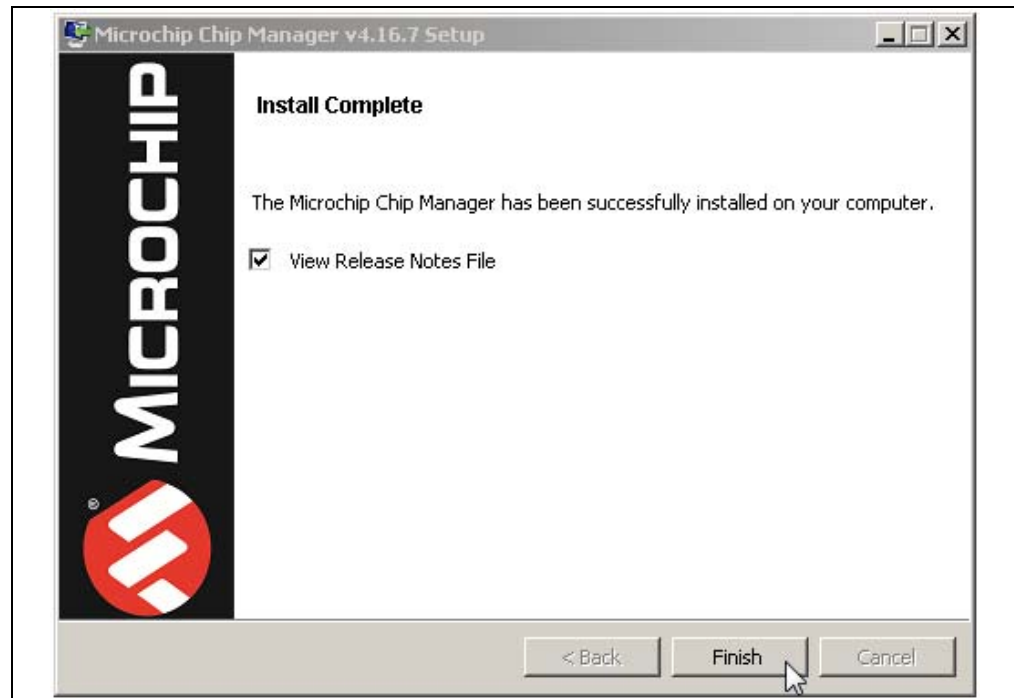

FIGURE 2-8: *Install Complete Dialog.*
11. Once the setup completes successfully, press **Finish** to exit the installer (see Figure 2-8).